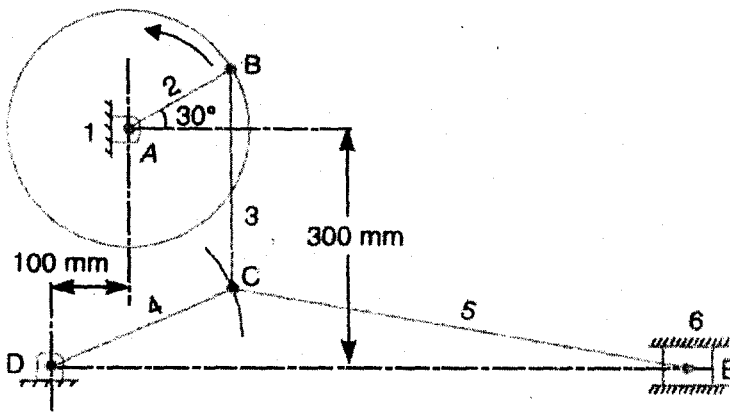

Figure 2
3. Consider the mechanism shown in Fig. 2. The dimensions of different links are: AB = 150 mm, BC = 300 mm, CD = 225 mm, CE = 500 mm. Angular velocity of the link is 240 rpm counterclockwise.